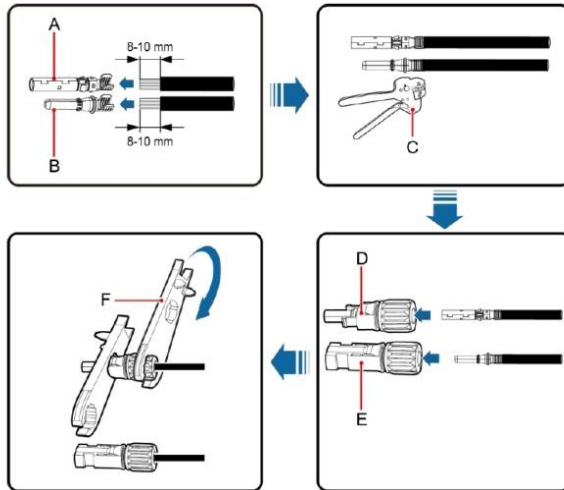

Fig 5.2 Connection between MC4 DC connector and PV string
(1) As shown in Fig 5.2, connect the output wire of the PV string to the DC connector of the inverter.